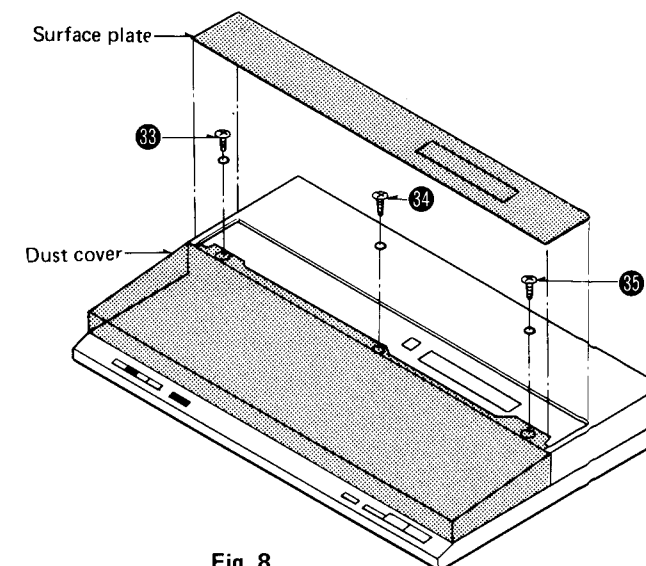

Fig. 8
3. Remove the dust cover setscrews ㉕ ~ ㉗. (Fig. 8)